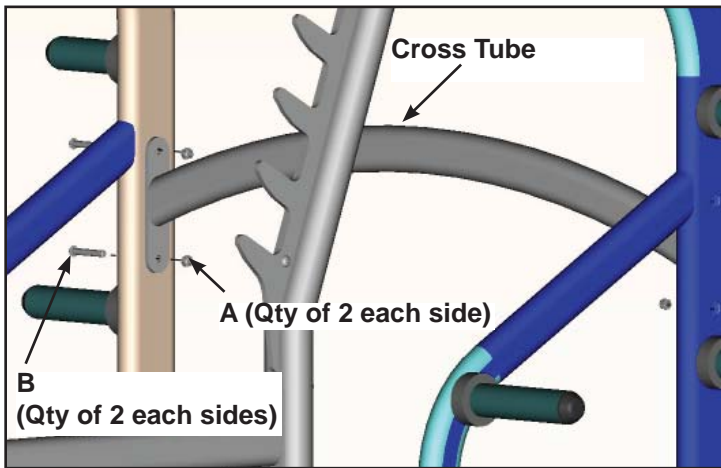

Figure 2
- B. Carefully place (C) rubber feet (supplied with machine) on each foot of the frame.
- C. Align cross tube in place. See Figure 2.